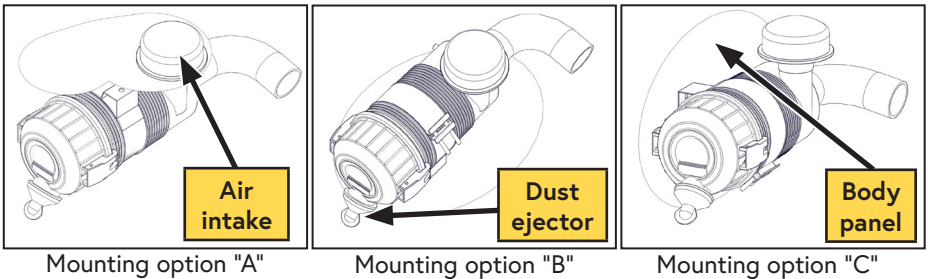

Figure 69 — Installing the remote air intake housing
- Where the air filter dust ejector (short spigot with a split rubber boot) points downward and where ejected dust will not build up or compromise any other equipment (Figure 69).